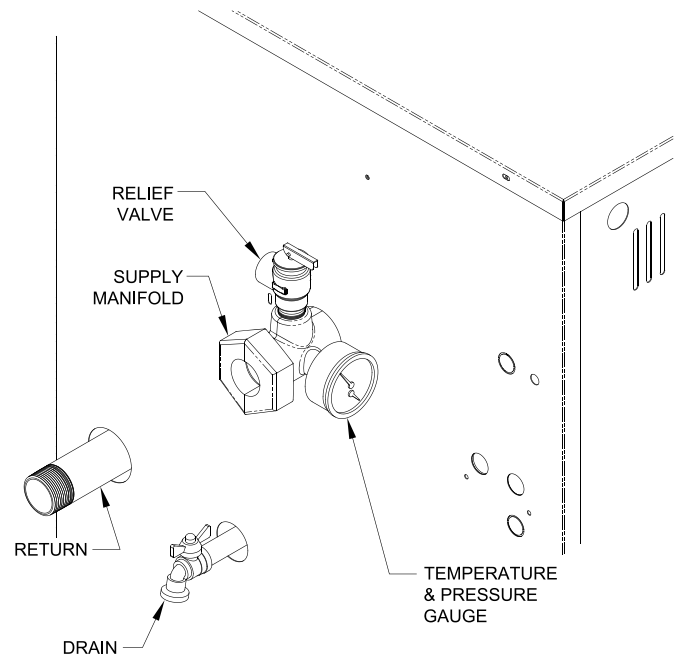

Figure 7-1: Standard Near Boiler Piping
3. Install Safety Relief Valve. See Figure 7-1. Safety Relief Valve must be installed with spindle in vertical position. Union may be installed in safety relief valve piping.
4. Connect system supply and return piping to boiler. Refer to Figures 7-1, 7-2, 7-3, and 7-4. Also consult I=B=R Guide RHH published by Air Conditioning Contractors of America (ACCA) for additional information on the design of hydronic heating systems.